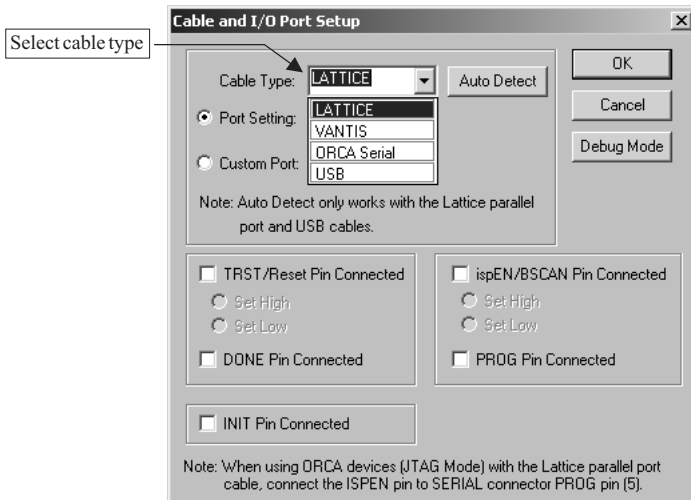

Fig. 29.2.47. Programming Cable Selection
- With Options/Cable and I/O Port Setup you select the PC port and the type of the download-cable (Fig. 29.2.47).